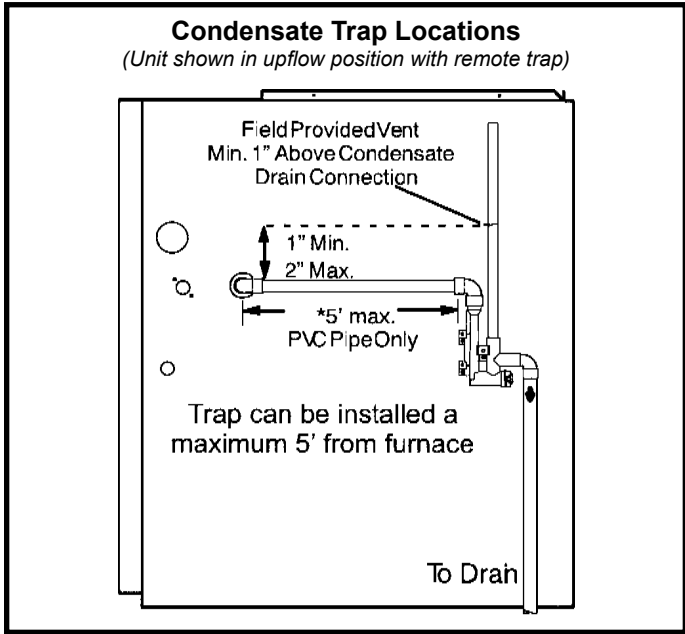

Figure 49
5. Install field provided vent on trap assembly as shown in Figures 49 through 54. Trap must extend at least 1" above the furnace condensate drain connection in upflow applications and 4-1/2" above the bottom of the cabinet in horizontal applications.